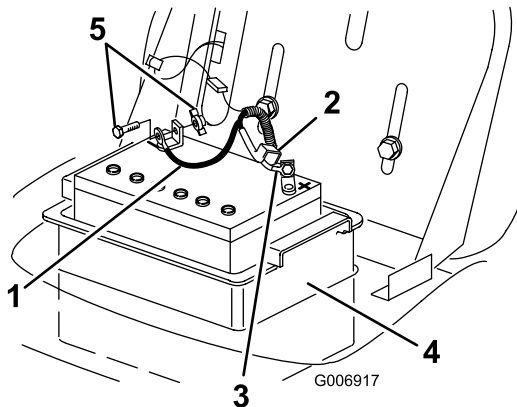

Figure 27
4. Disconnect the negative (black) ground cable from the battery post (Figure 27).
5. Slide the rubber cover up the positive (red) cable. Disconnect the positive (red) cable from the battery post (Figure 27).
6. Remove the battery box and battery from the chassis (Figure 27).
1. Put the battery into the battery box and install it into the chassis (Figure 27).
2. Using the bolt and wing nut, connect the positive (red) cable to the positive (+) battery post (Figure 27).
4. Using the bolt and the wing nut, connect the negative (black) cable to the negative (-) battery post (Figure 27).